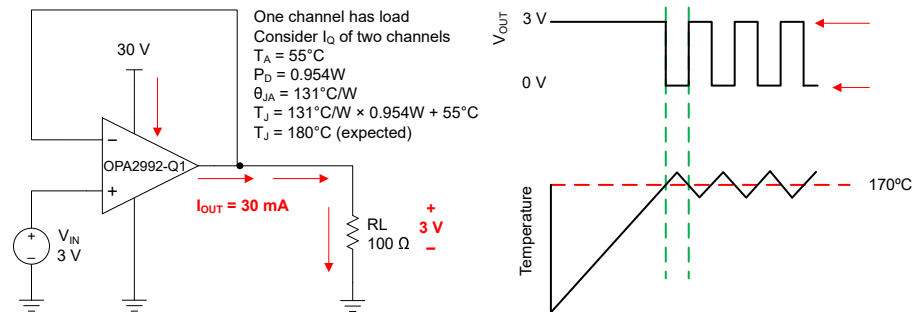

Figure 6-4. Thermal Protection
The internal power dissipation of any amplifier causes the internal (junction) temperature to rise. This phenomenon is called *self heating*. The absolute maximum junction temperature of the OPAx992-Q1 is 150°C. Exceeding this temperature causes damage to the device. The OPAx992-Q1 has a thermal protection feature that reduces damage from self heating. The protection works by monitoring the temperature of the device and turning off the op amp output drive for temperatures above 170°C. Figure 6-4 shows an application example for the OPA2992-Q1 that has significant self heating because of the power dissipation (0.954W). In this example, both channels have a quiescent power dissipation while one of the channels has a significant load. Thermal calculations indicate that for an ambient temperature of 55°C, the device junction temperature reaches 180°C. The actual device, however, turns off the output drive to recover towards a safe junction temperature. Figure 6-4 shows how the circuit behaves during thermal protection. During normal operation, the device acts as a buffer so the output is 3V. When self heating causes the device junction temperature to increase above the internal limit, the thermal protection forces the output to a high-impedance state and the output is pulled to ground through resistor R_L . If the condition that caused excessive power dissipation is not removed, then the amplifier oscillates between a shutdown and enabled state until the output fault is corrected. Please note that thermal performance can vary greatly depending on the package selected and the PCB layout design. This example uses the thermal performance of the SOIC (8) package.